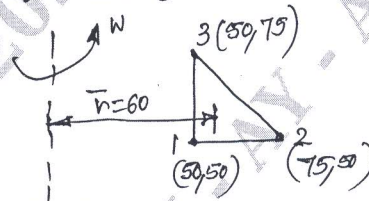

Fig.Q10(a)
- 10 a. For the element of an axisymmetric body rotating with constant angular velocity $W = 1000$ rev/min as shown in Fig.Q10(a). Determine the body force vector. Include the weight of the material, where the specific density is 7850 kg/m^3 .